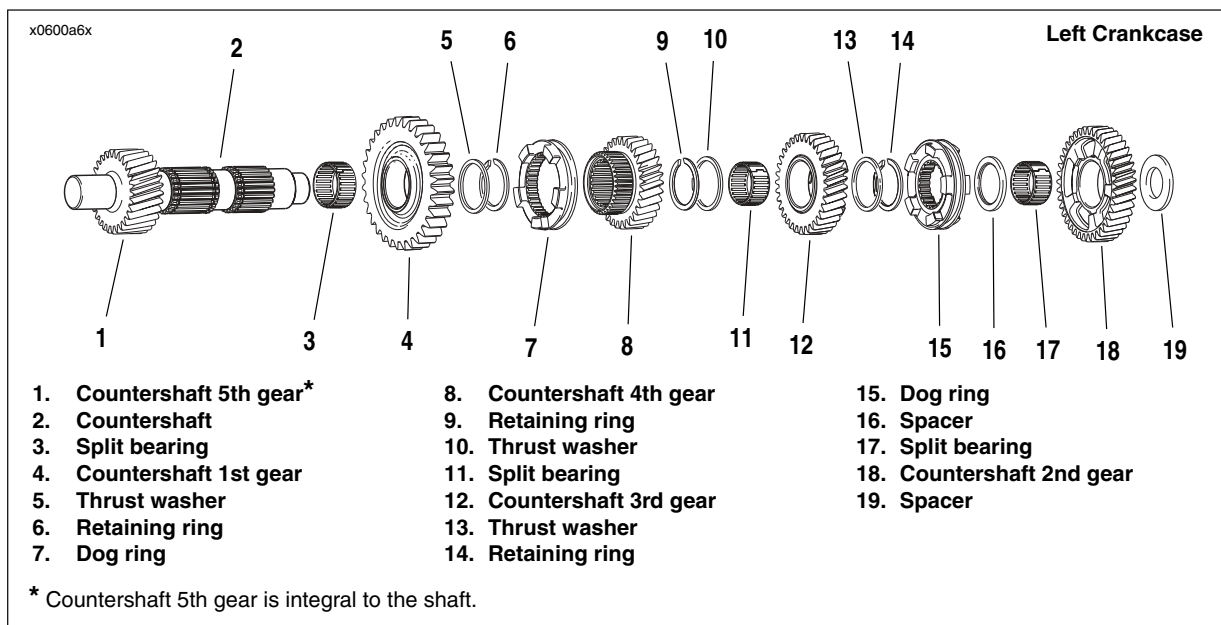

Figure 6-65. Transmission Countershaft Assembly Once Removed from Left Crankcase/Disassembly
1. See Figure 6-65. Install **new** split bearing (3) in 1st gear position on mainshaft.
2. Install 1st gear (4) and thrust washer (5).
3. Using RETAINING RING PLIERS (Part No. J-5586-A), expand and install **new** retaining ring (6).
4. Install dog ring (7) onto 4th gear (8). Now install dog ring and gear assembly onto countershaft.
5. Expand and install **new** retaining ring (9).
6. Install thrust washer (10).
7. Install **new** split bearing (11) in 3rd gear position on mainshaft.
8. Install 3rd gear (12) and thrust washer (13).
9. Expand and install **new** retaining ring (14).
10. Install dog ring (15). Make sure to install with dog ring facing same direction as when it was removed.
11. Install spacer (16).